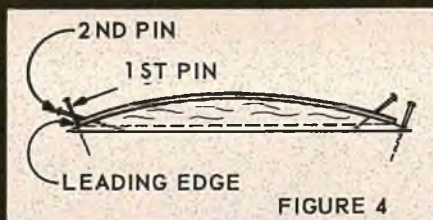

FIGURE 4
Step 7. Pin the ribs of each panel in place on your flat table. Insert the pins at the leading edge as shown in Fig. 4, so the leading edge of the sheet will fit tight against the pins when the
Step 9. Pin the leading edge of the sheet in place with a second pin, as shown in Fig. 4, at all the ribs, then gently press the sheet down to fit the rib curve. Pin the trailing edge down. Let dry.